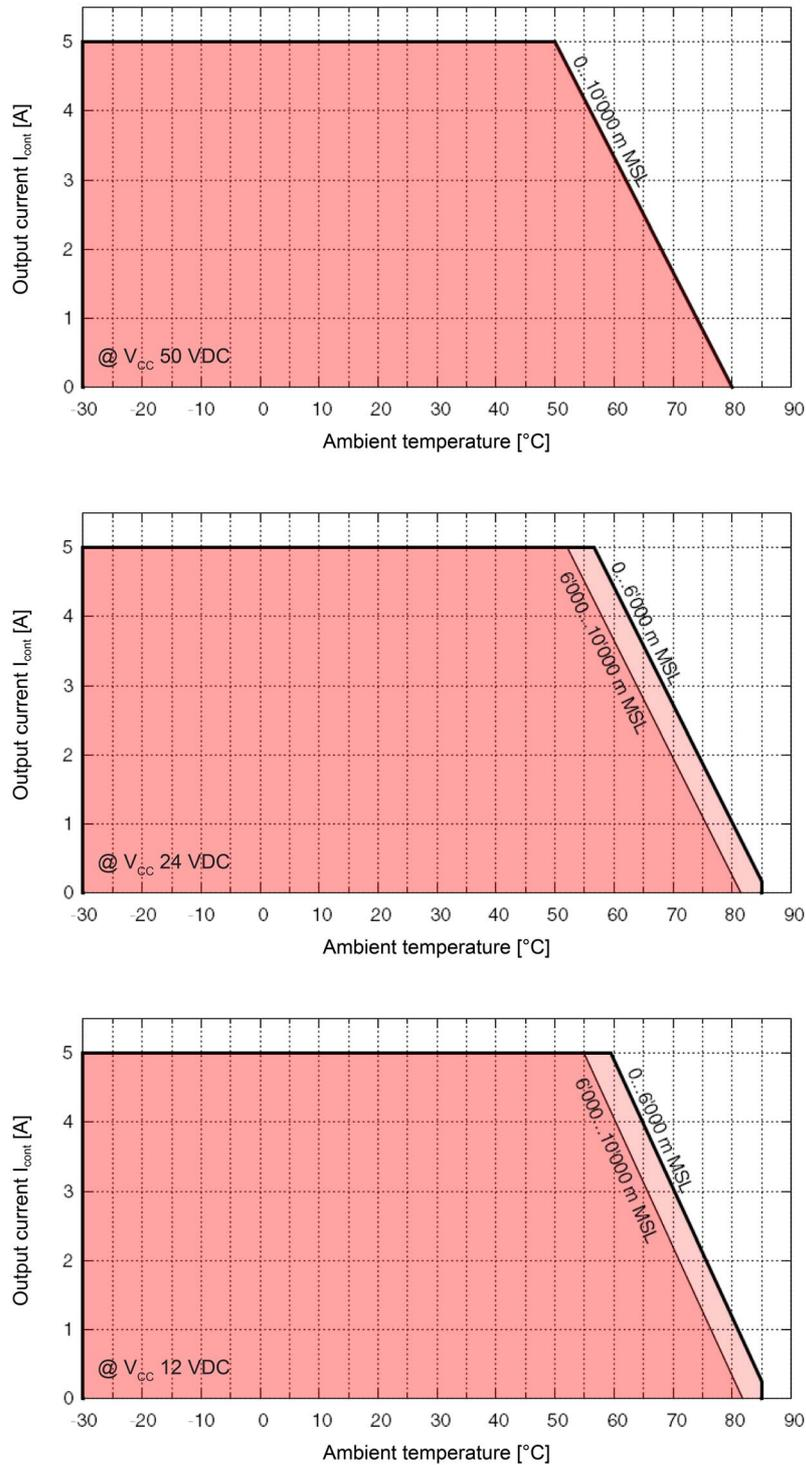

Figure 2-2 Derating of output current
Extended range [a]	+50...+80 °C; Derating: -0.167 A/°C (→Figure 2-2) Additional derating with inserted extension card: Ambient temperature less 5 °C (→Figure 2-2) [d]
- [d] Derating further increases with an inserted extension card. For the actual value, consult →Figure 2-2 and shift the graph horizontally to the left by the specified value.